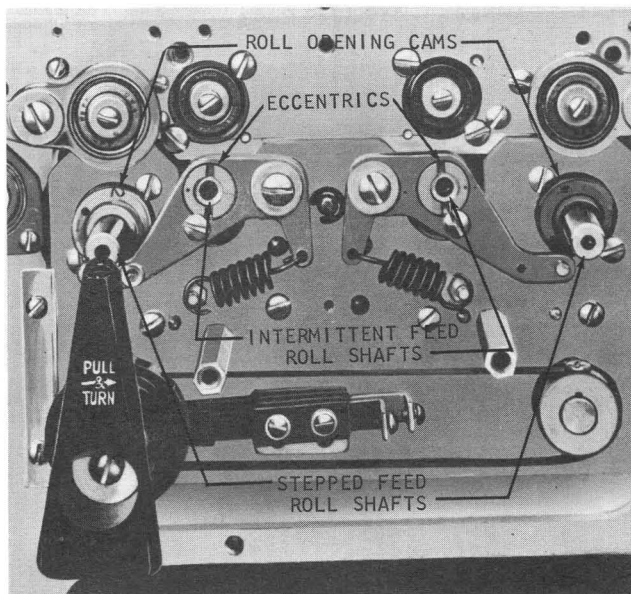

Figure 4-8. Roll Opening Device
5. Adjust eccentrics* at each end of first intermittent feed roll shaft so that each card experiences light drag. Keep high side of eccentrics (indicated by the punch marks on the eccentrics) facing punch marks on intermittent feed roll opening arms (Figure 4-8).
5. Adjust the eccentrics* at each end of the second intermittent feed roll shaft so that each card experiences light drag. Keep high side of eccentrics (indicated by the punch marks on the eccentrics) facing punch marks on intermittent feed roll opening arms (Figure 4-8).
Principles of Operation (Figure 4-8)